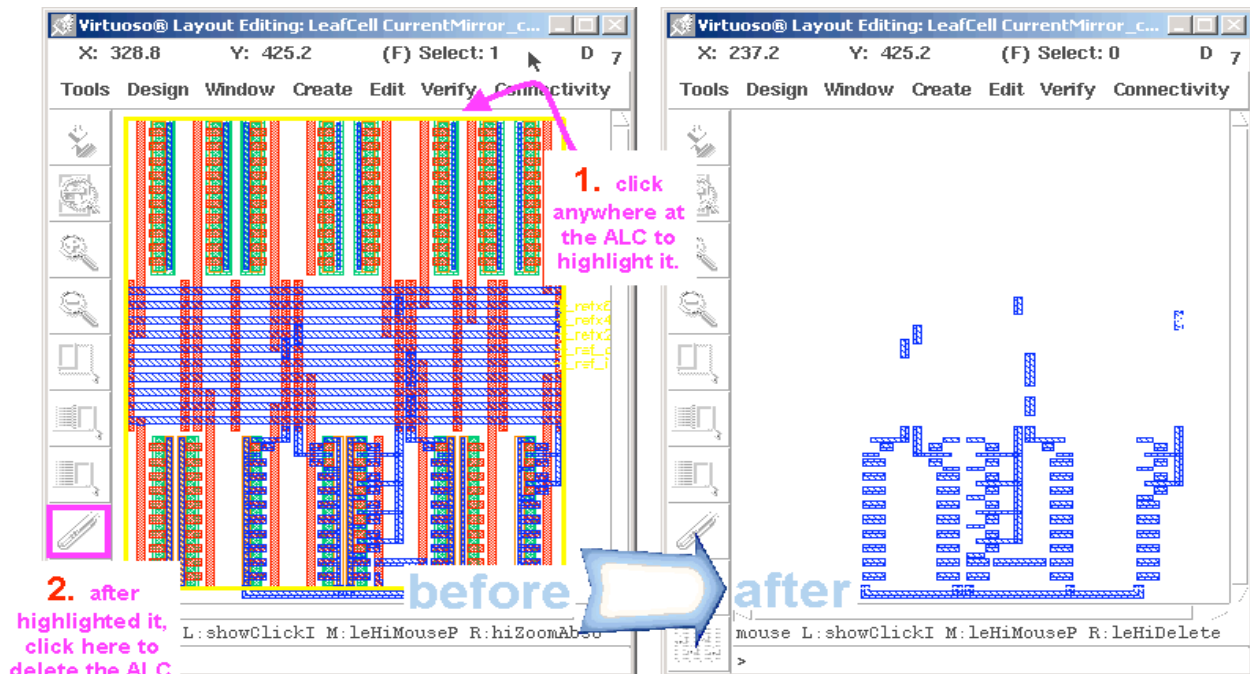

Figure 110: Steps for selecting the metals from the leafcell layout.
- Carefully select the ALC, **not the wiring metals**, and then delete the ALC (Figure 110).